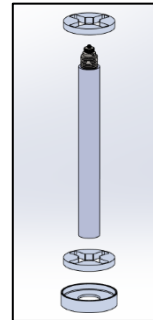

FIG.5 ACOUSTIC HOLDER
3. ACOUSTIC HOLDER ASSEMBLY. (shown in FIG. 5)